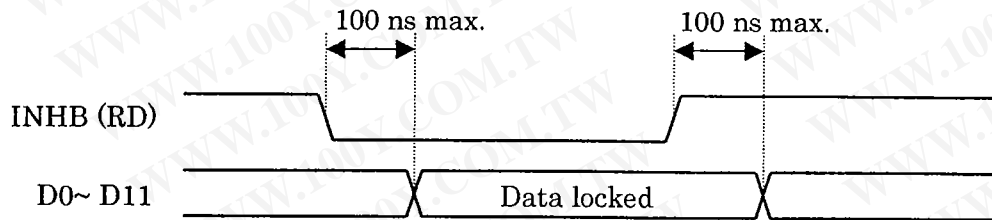

Figure 14. Timing of INHB (RD) signal
The timing of INHB (RD) signal is shown in Figure 14.